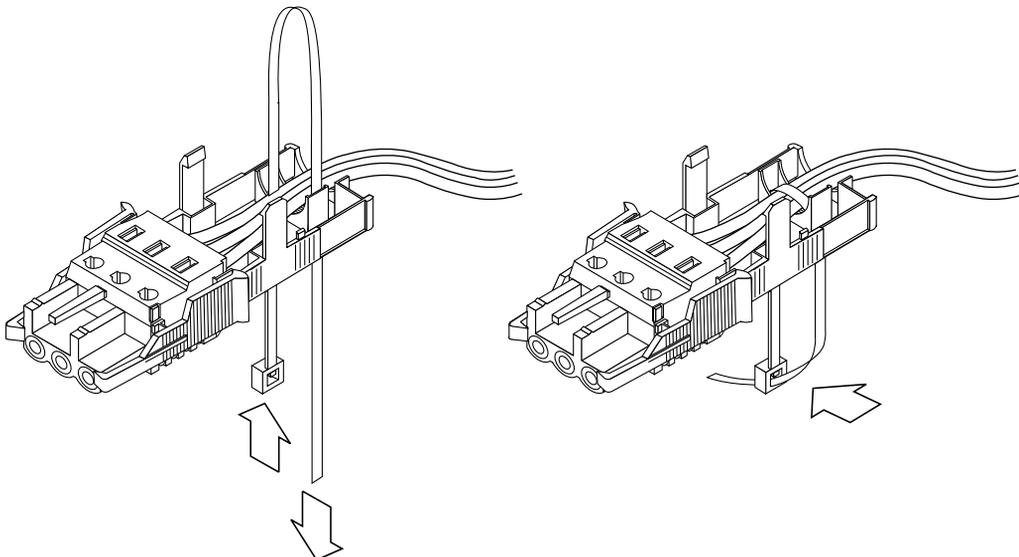

FIGURE 2-12 Securing the Wires to the Strain Relief Housing
3. Insert the tie wrap up from the bottom into the opening on the left side of the wires in the strain relief housing (FIGURE 2-12).